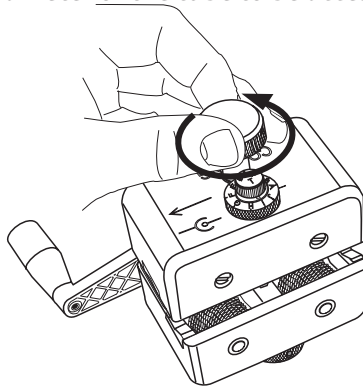

Figure 7
- a. Use the thumbscrew to open the tool to at least 0.25 in more than the diameter of the tube to be accessed (Figure 7).